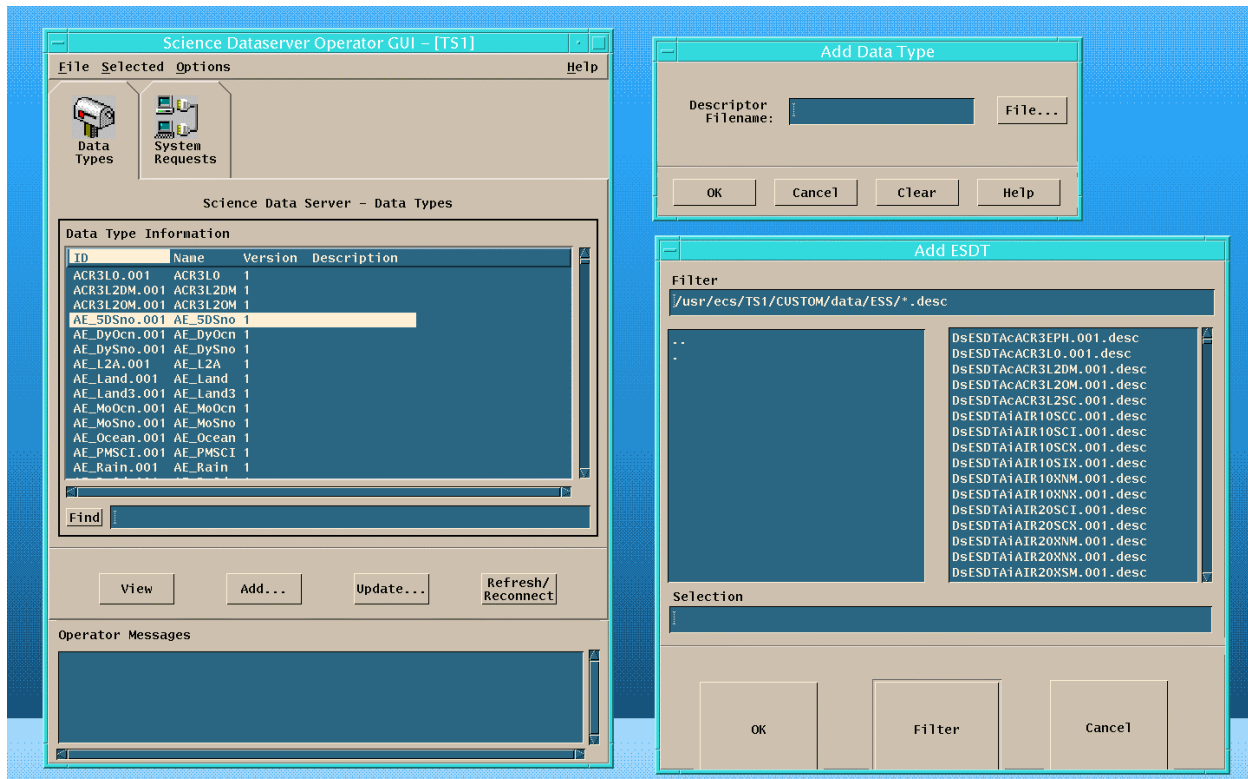

Figure 26.11.3.1-1. Adding An ESDT - The GUIs Involved
- This brings up the Science Operator Dataserver Gui GUI. Refer to figure 26.11.3.1-1